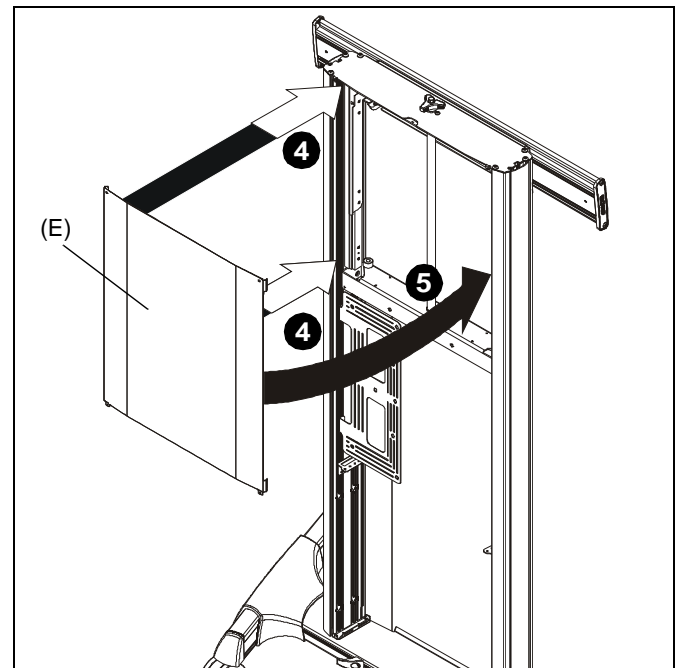

Figure 19
4. Insert tabs on one side of upper cover (E) into corresponding slots on side of column assembly. (See Figure 19)
5. Manipulate upper cover (E) so that it fits within front cavity of column assembly and insert tabs on other side of upper cover (E) into corresponding slots on side of column assembly. (See Figure 19)